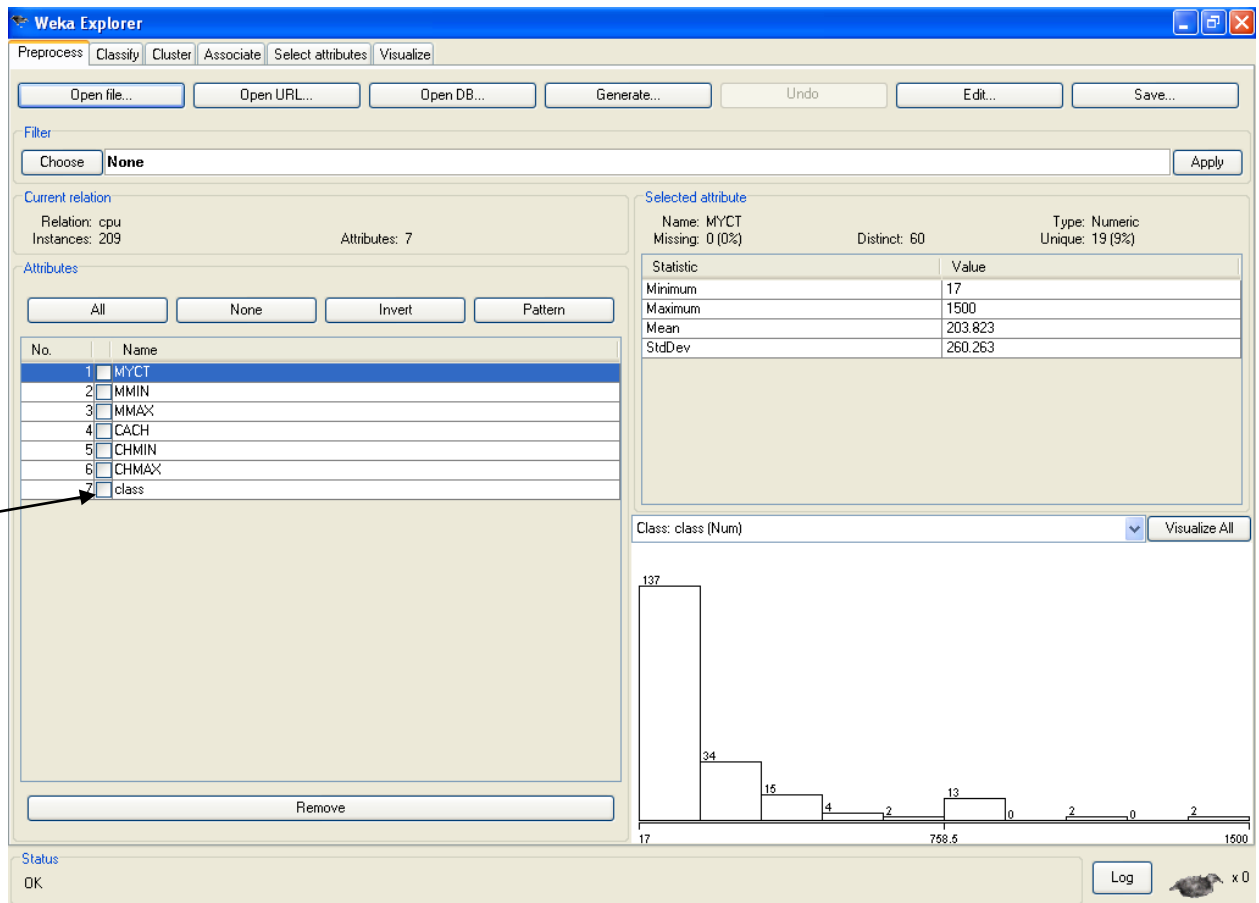
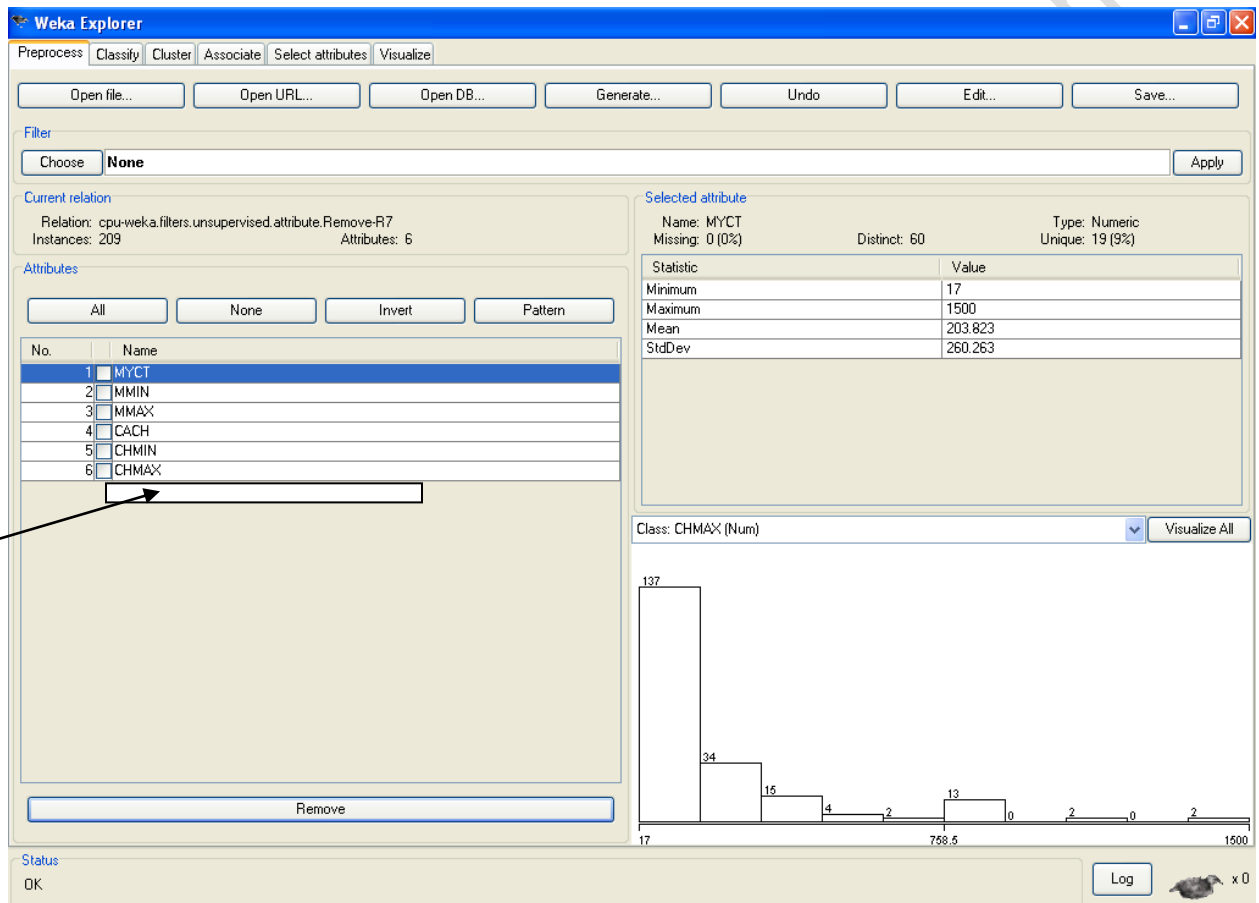

Figure-6
Figure-7
6. Select any attribute in the attributes section (for e.g. class as shown in Figure-6) and click on remove button as shown in the figure-7 below.